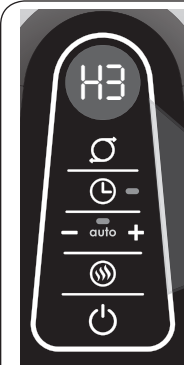

Figure 1
6. Upon turning the Heater on, the unit will be in High heat (H3) (1500 Watts). (*Figure 1*).